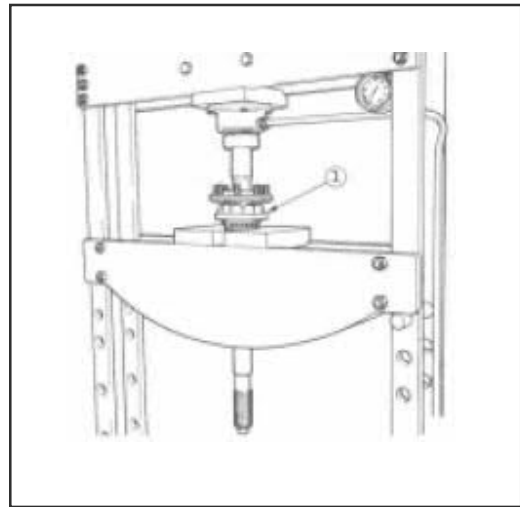

Fig. 7
7. Place the small quantity of high temperature grease between the oil seal and bearing. Position the bearing assembly, seal with retainer Hub and Axle shaft under a hydraulic press. Press the taper roller bearing cone in to position. (Item 1 in Fig 7).